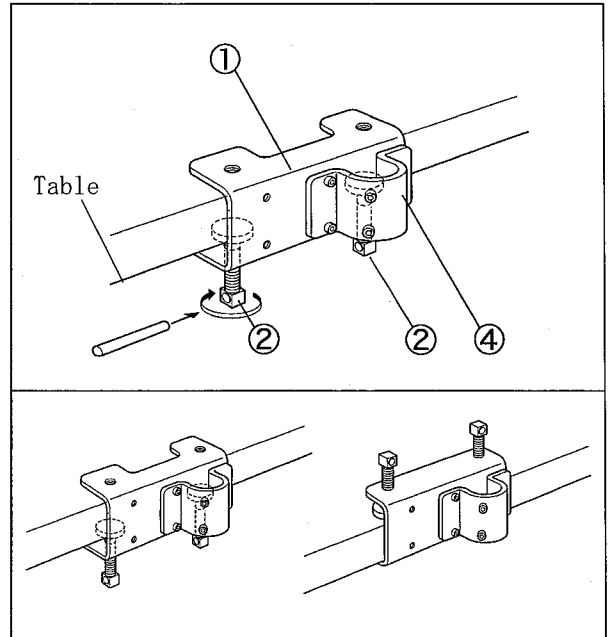

Fig. 2-1
1. Fix the clamp ① onto the table with the bolts ②. (Fig. 2-1)
○The bolts for clamp ① can be installed from both up and down sides. (Fig. 2-1)